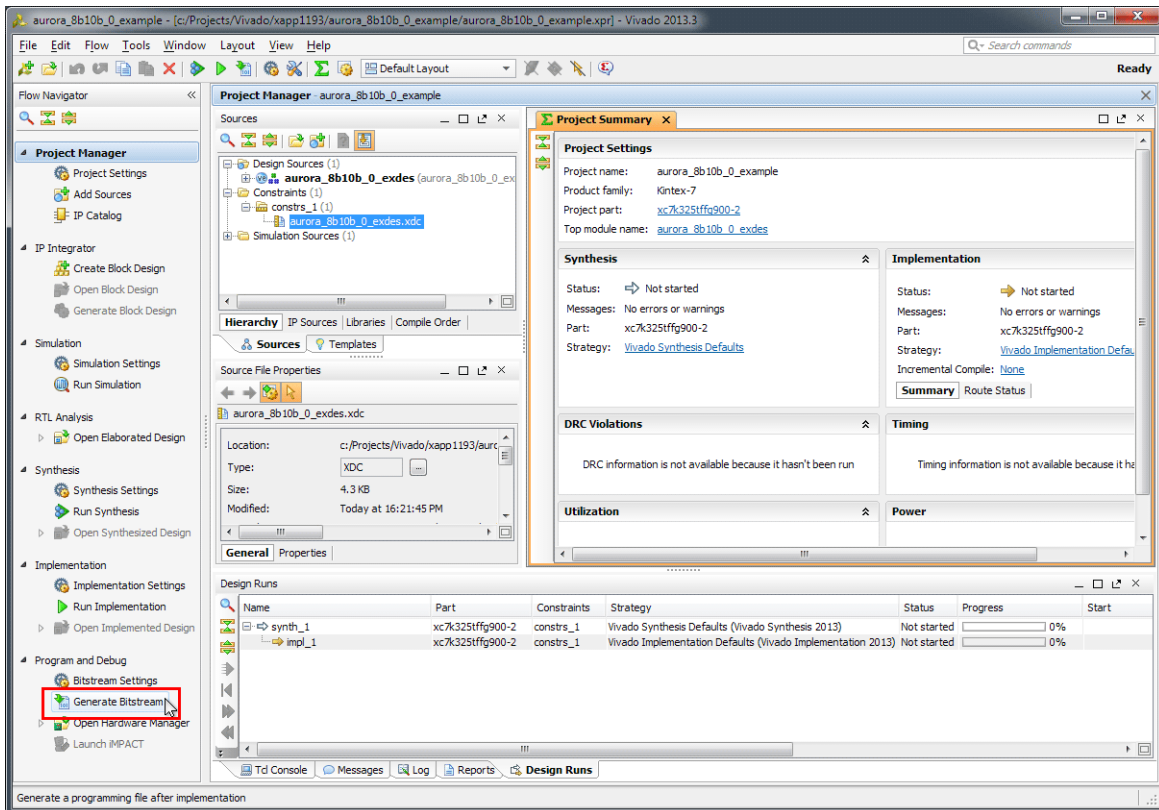

Figure 14: Generate Bitstream
9. Select **Generate Bitstream** from the Flow Navigator panel (Figure 14).